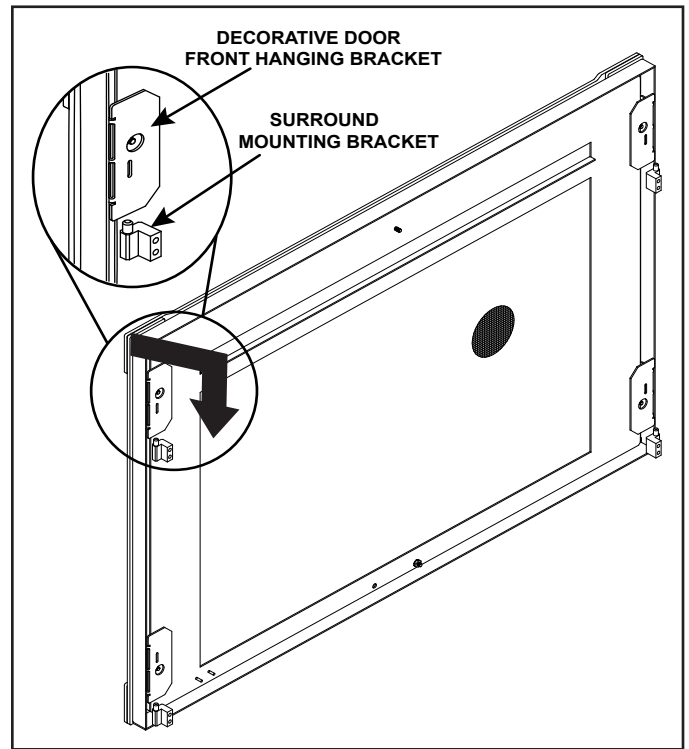

Figure 6.
2. Place the front onto the blocks by sliding the decorative front hanging brackets down behind the black pins on the surround. See Figure 6.